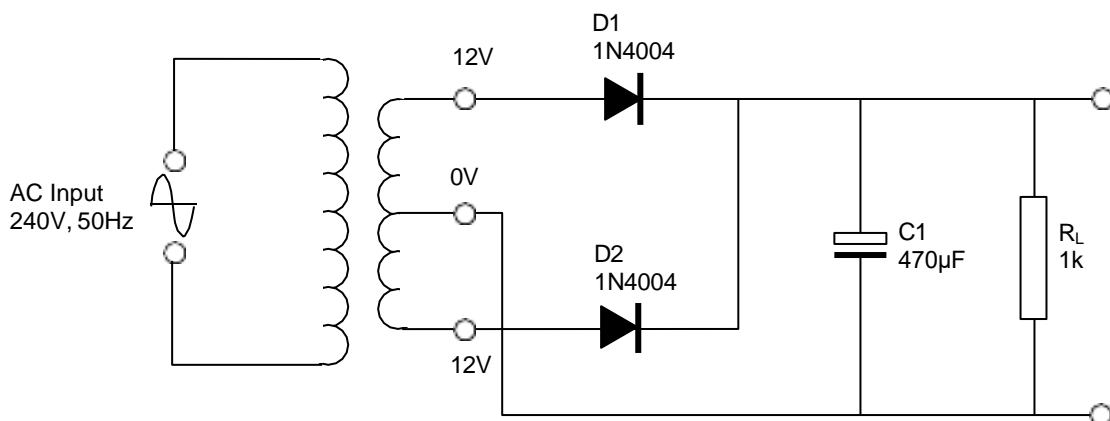

Figure 14.
3. For the circuit in Figure 14:
b) Calculate the ripple voltage for the circuit of Figure 14.